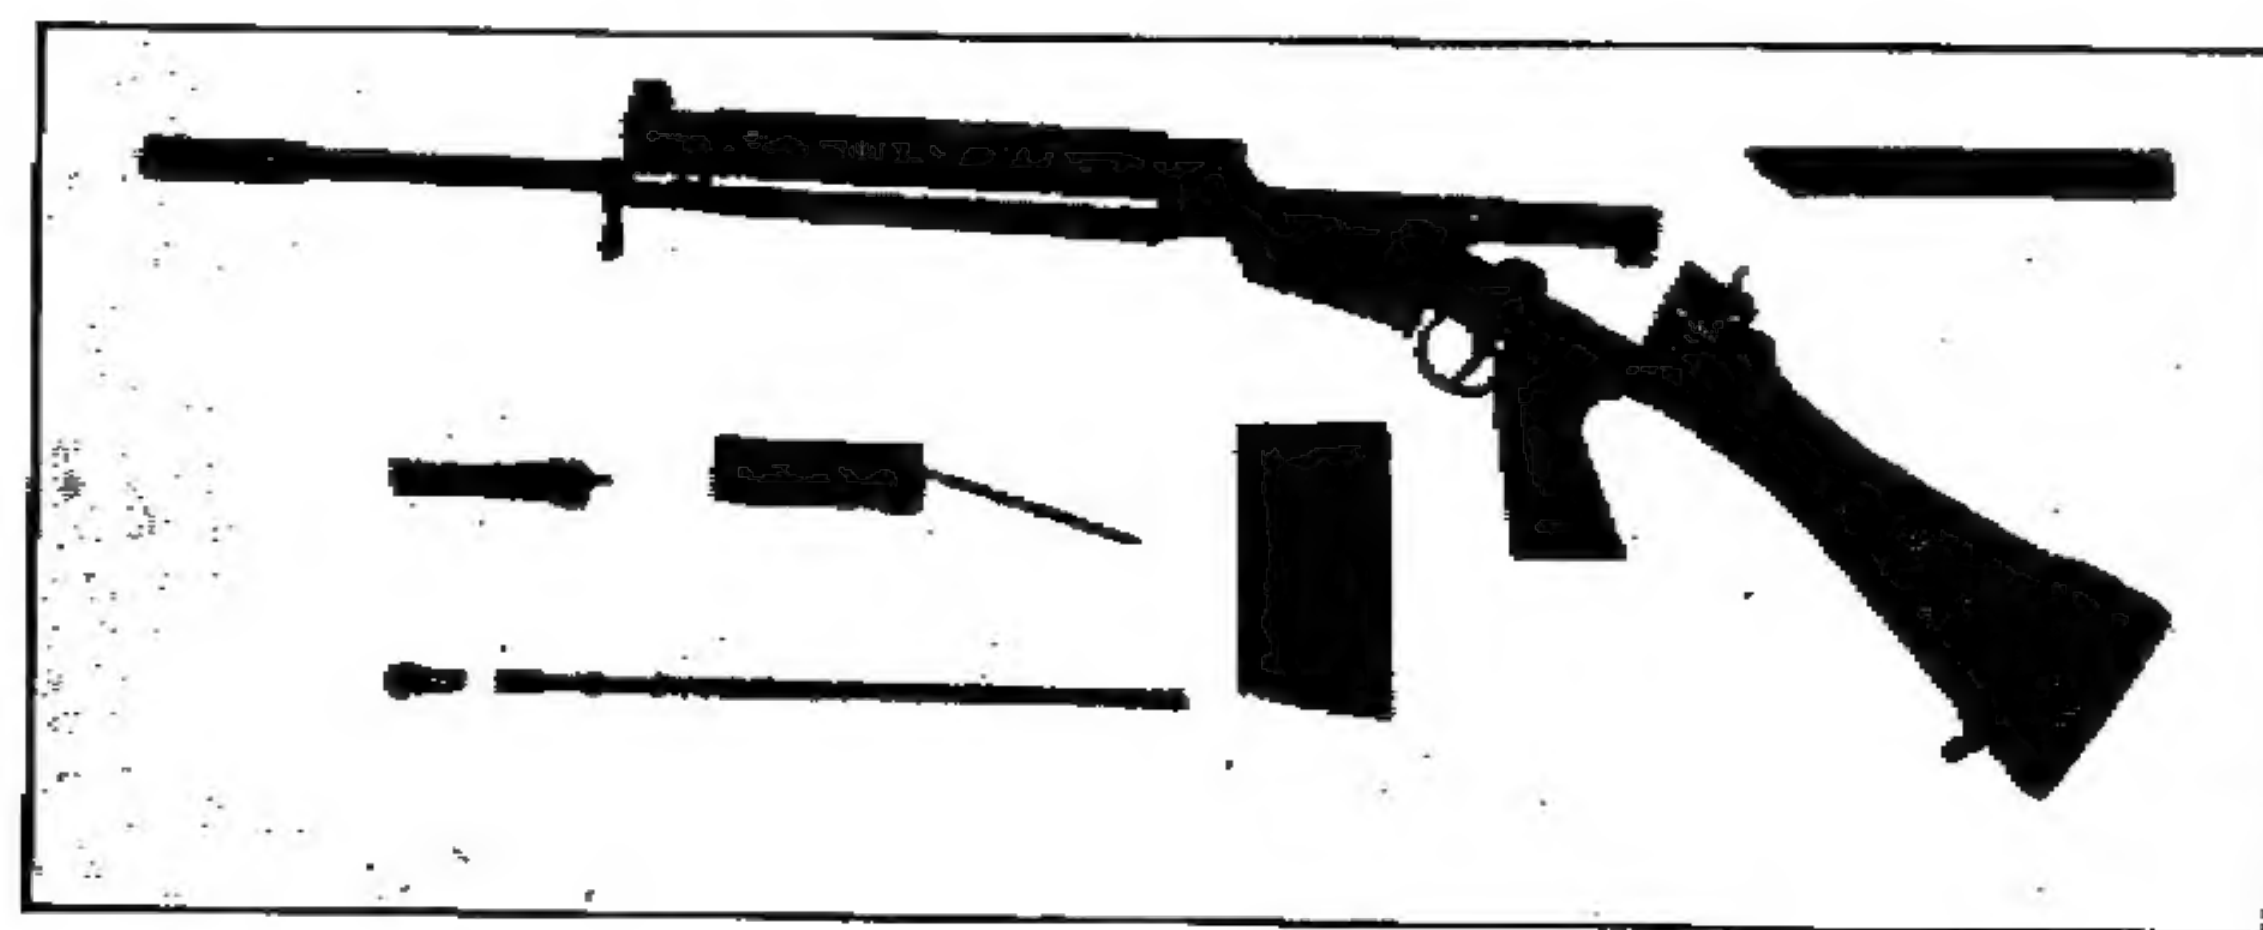

Fig. 3
9. Stripping and assembly. — Stripping and assembly for normal cleaning and maintenance can be done without using tools. For the usual cleaning, it is sufficient to take out the magazine, gas plug and piston and the breech block assembly, after removing the top cover (fig. 3). The breech block assembly and the cover can be removed very easily. The weapon opens like a shot-gun, i.e. the butt is hinged to the body and the rifle swings open to give access to the mechanism. The return springs, encased in the butt, do not require maintenance and should never be touched by the user.